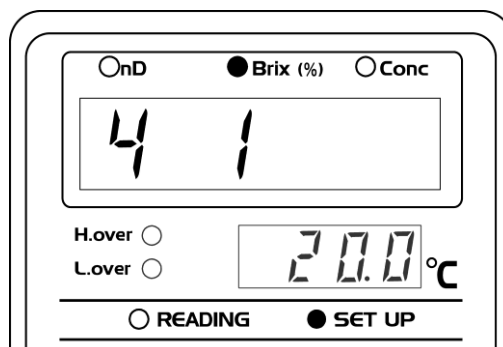

Fig. 11-29
⑤ Press the **↑** **↓** keys, and "4" will appear under the LED light for nD and "1" under the LED light for Brix (Fig. 11-29).